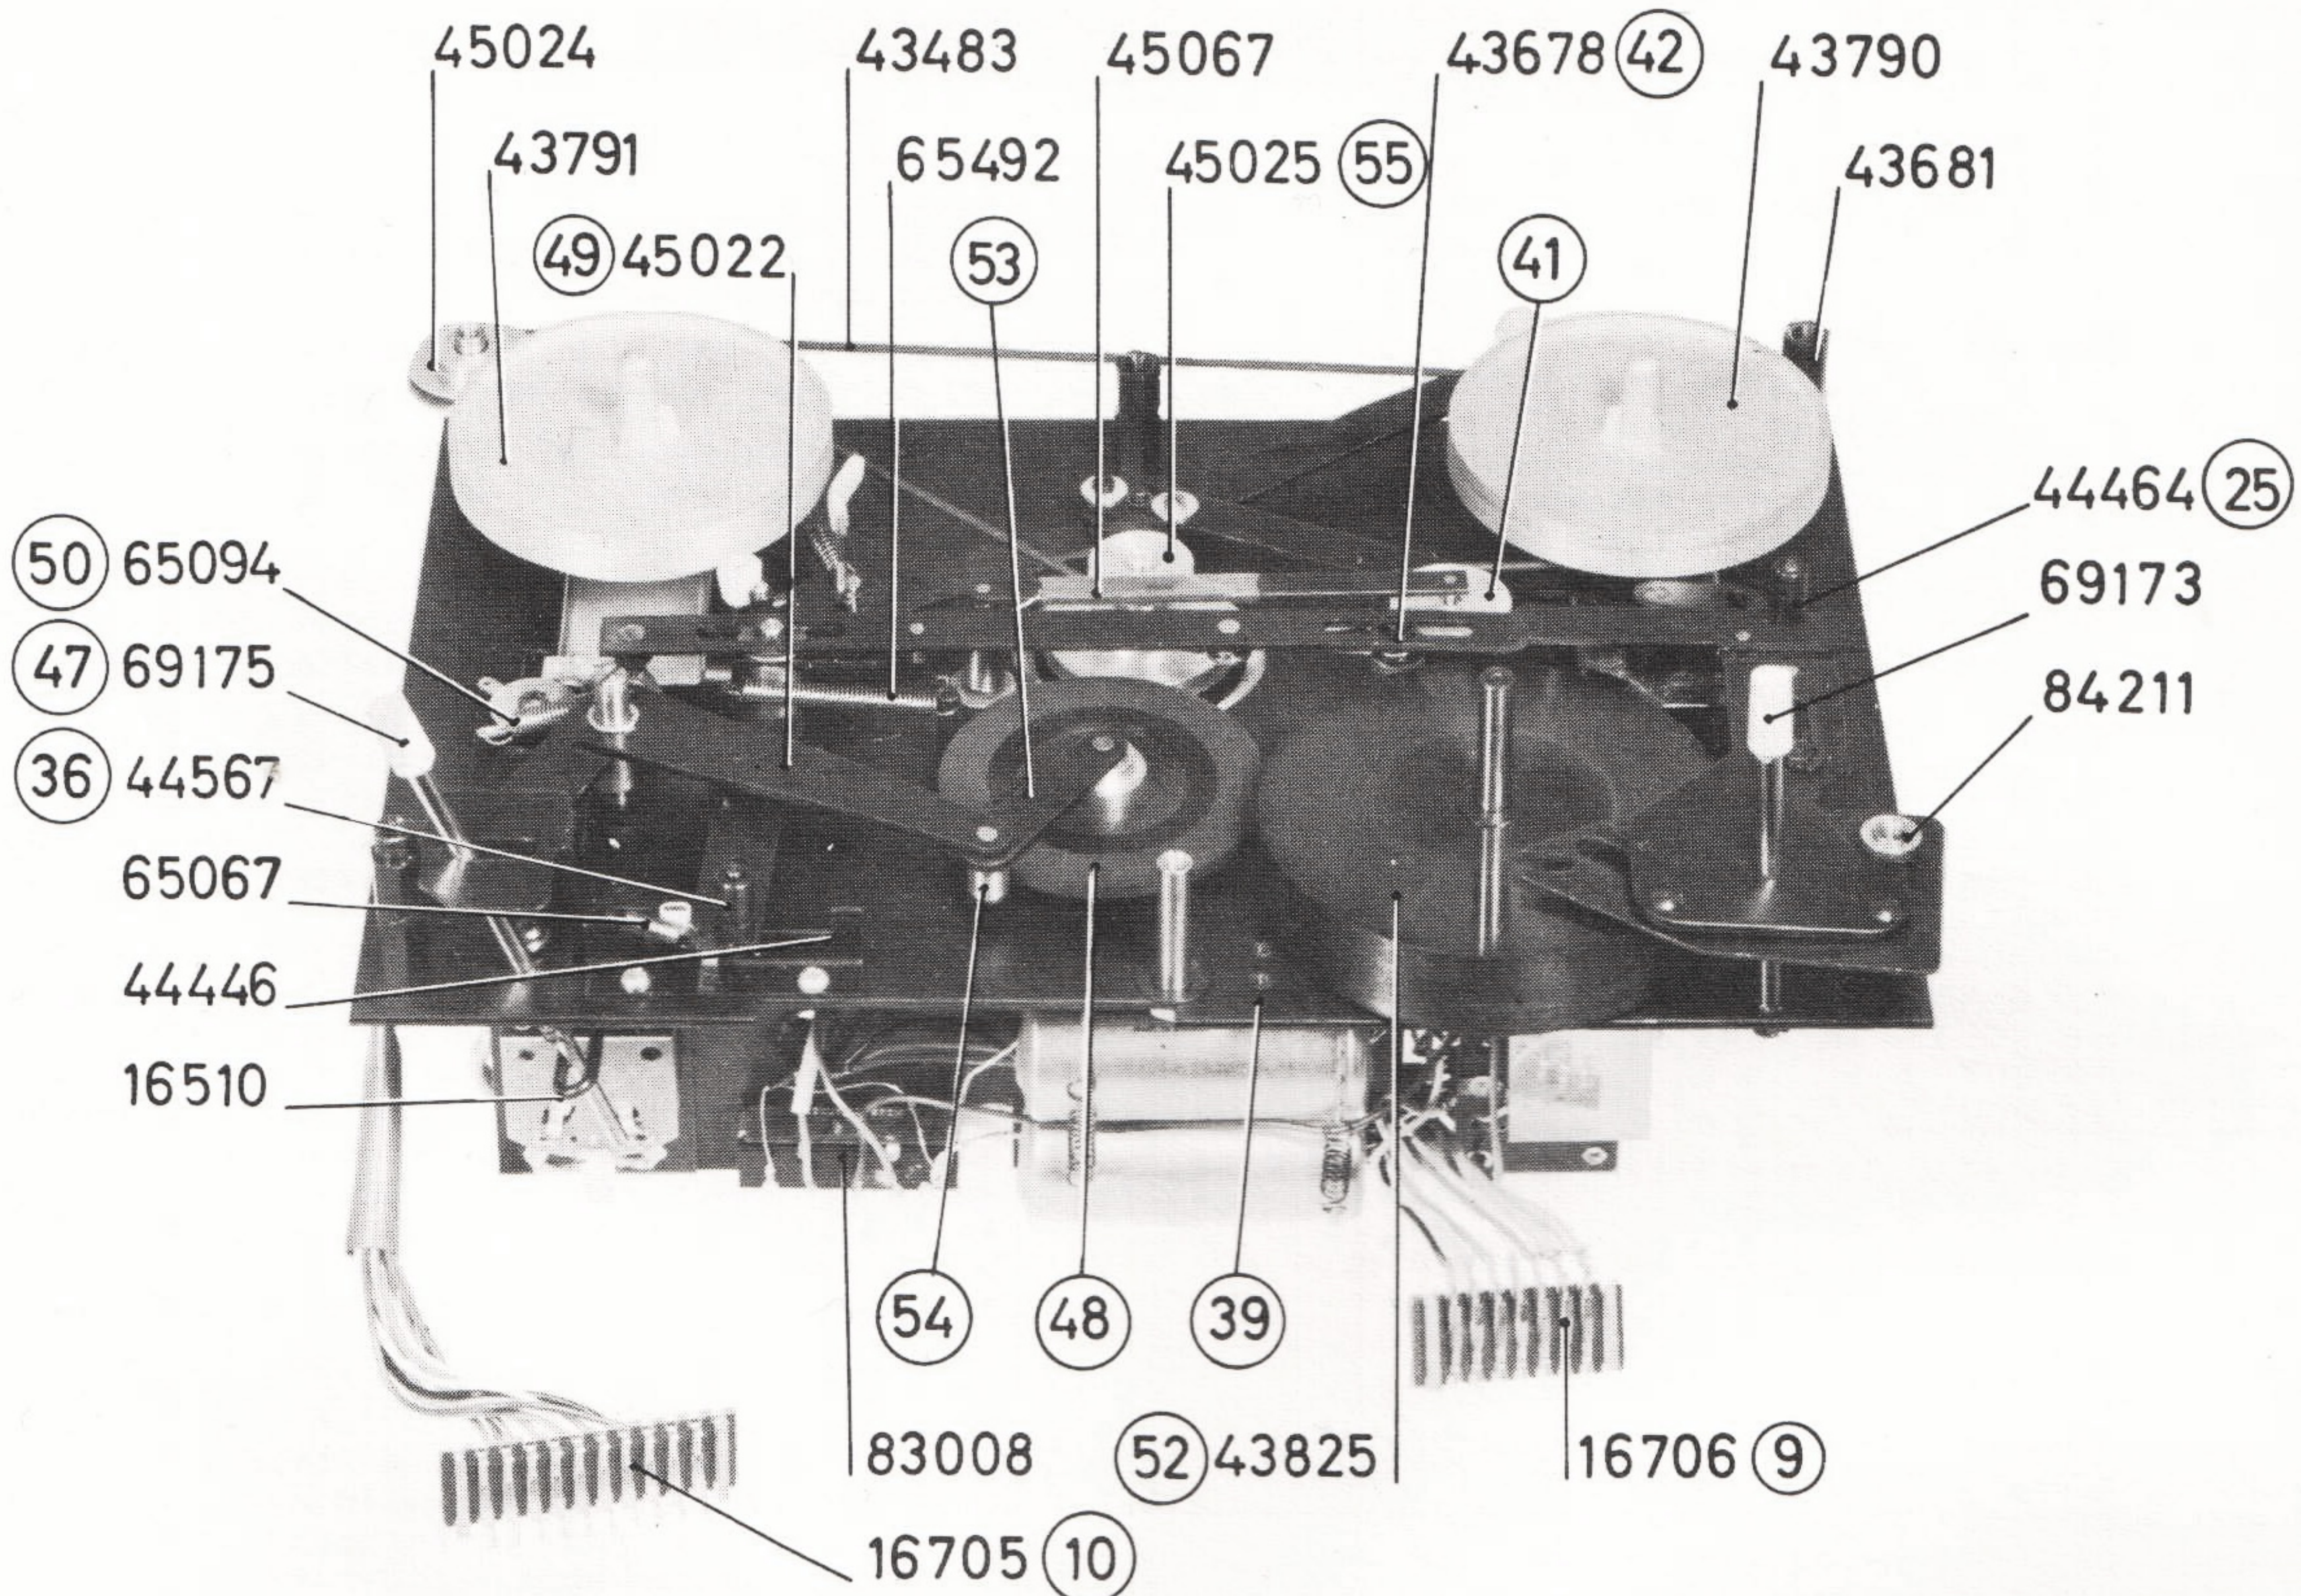

Fig. 4
7. BORTTAG ANSLUTNINGSKONTAKTERNA (9 & 10) TILL FÖRSTÄRKAREN. SE FIG. 4.
B) KONTROLLERA ATT MANÖVERARMEN (25) LIGGER LÄTT AN MOT BASPLATTAN (JUSTERAS GENOM BOCKNING). SE FIG. 4.
JUSTERING: FÖR STARTSPAKEN (13) TILL LÄGET MÄRKT MED EN PIL, SAMT MANÖVERSPAKEN (35) TILL STOPPLÄGE 1. I DETTA LÄGE SKALL ETT AVSTÅND AV 0,2 - 0,5 MM FINNAS MELLAN TRYCKRULLEN OCH KAPSTAN-AXELN. DETTA AVSTÅND KAN ÖKAS ELLER MINSKAS GENOM VRIDNING AV DEN NEDRE 6-KANTIGA DELEN AV DEN EXCENTRISKA LAGERTAPPEN (36). SE FIG. 4.
MED SPAKEN FÖR HASTIGHETSOMSTÄLLNING (47) I LÄGE 7 1/2" KONTROLLERAS ATT MELLANHJULET (48) LIGGER PARALLELLT MED MONTERINGSPLÅTEN SAMT ATT MELLANHJULETS LAGERTAPP LIGGER PÅ ETT AVSTÅND AV 0,3 - 0,7 MM FRÅN MONTERINGSPLÅTEN. VID BEHOV BOCKAS DEN LÅNGA MANÖVERARMEN (49) UPP ELLER NED. KONTROLLERA ÄVEN MED SPAKEN (47) I SAMTLIGA TRE LÄGEN ATT ETT MINDRE SPEL FINNES MELLAN SPAKEN OCH MELLANHJULETS MANÖVERARM. DETTA SPEL KAN JUSTERAS IN GENOM BOCKNING AV MANÖVERARMEN (49). MAX. SPEL 1 MM, MIN. SPEL 0,5 MM. SE FIG. 4.
FJÄDERN (50) FÖR MELLANHJULETS (48) TRYCK MOT DRIVRULLE (55) OCH SVÄNGHJUL (52) SPÄNNES SÅ MYCKET ATT ETT TRYCK AV 70 - 80 GRAM ERHÅLLES. MÄTES MED FJÄDERVÅG VID MELLANHJULSLÄNKENS (53) LAGERBUSSNING (54). VÅGEN FÖRES LÅNGSAMT IN OCH AVLÄSES I DET ÖGONBLICK DÅ MELLANHJULET BEFINNER SIG NÅGON MILLIMETER FRÅN DRIVRULLENS (55) STÖRSTA DRIVDIAMETER. (MANÖVERSPAK (47) SKALL STÅ I LÄGE 7 1/2"). SE FIG. 4.